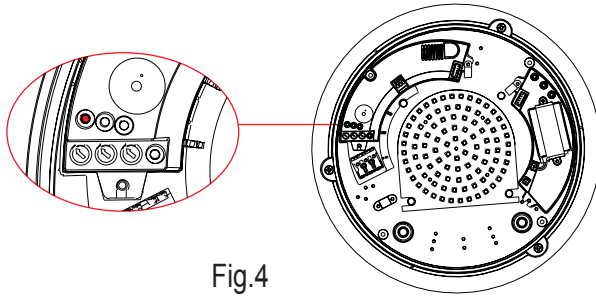

Fig.4
- 1、 There is an optical sensor inside the lamp(as fig.4),during the installation,it should be turned to where the sunshine is sufficient.At the same time,it should avoid other light sources,which will influence the judgement of optical sensor to the ambient illumination.